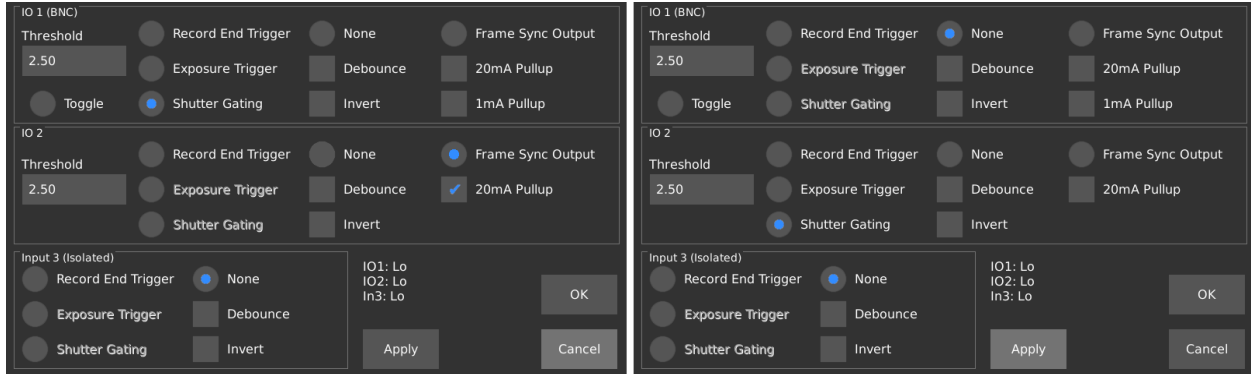

Figure 3.3 External input trigger settings. Left, driving camera. Right, driven camera
- In the Trigger settings window, set up the driving and driven cameras' trigger settings as seen in **Figure 3.3**, then press **“Apply”** and **“OK”**